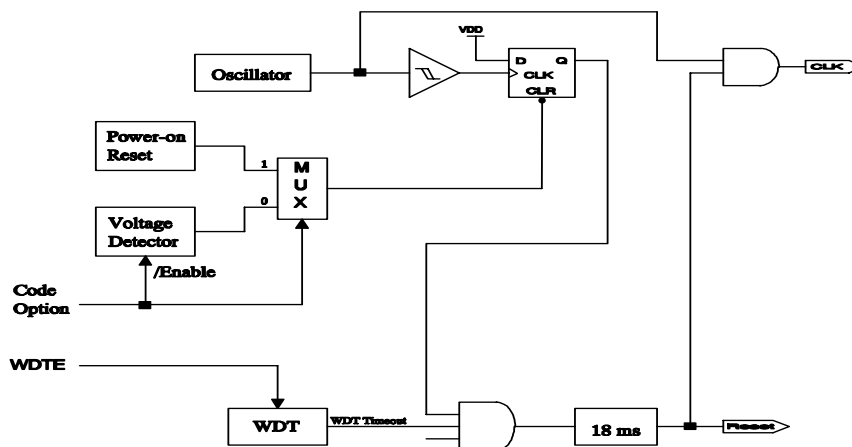

Fig.11 Block diagram of Reset of controller
The I/O registers, Port5 ~ Port 9, are bi-directional tri-state I/O ports. Port 7 can be pulled-high internally by software control. The I/O ports can be defined as "input" or "output" pins by the I/O control registers (IOC6 ~ IOC9) under program control. The I/O registers and I/O control registers are both readable and writable. The I/O interface circuit is shown in Fig.11.
- (1) External /RESET pin
- (2) Power on reset or Power on voltage detector reset(/POVD reset)
- (3) WDT timeout. (if enabled and in GREEN or NORMAL mode)
Note that only Power on reset, or only Power on voltage detector reset in Case(2) is enabled in the system by CODE Option bit. If /POVDs disabled, Power on reset is selected in Case (2). Refer to Fig.11.